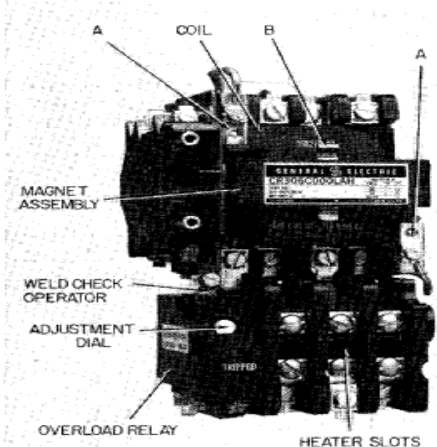

Figure 1. Typical 300/400-Line magnetic starter
2. Press against coil while pulling up slightly on coil retainers (A—Figure 1) and move retainers away from coil.
4. Withdraw spring clip (B—Figure 1) and remove armature from movable arm.
**Note:** For starters with one or more normally closed contacts, perform steps 1 and 2 shown under Coil Replacement. Withdraw spring clip (B—Figure 1) and remove armature, coil, and magnet from device. Remove return spring from center of movable arm. Remove molded cover and stationary contacts before lifting movable arm from device.
5. The ultimate tripping current of the installed relay heater can be adjusted  $\pm 10\%$  by using the adjustment dial, shown in Figure 1.